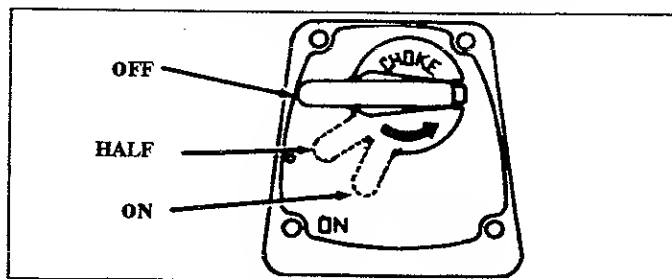

Figure 8
- a. Move Choke to "On" position. Figure 8.
- d. Move Choke to "half" position. Figure 8.
- f. Allow engine to run 5 seconds, then push Choke to "off" position. Figure 8. *Keep Trigger fully squeezed until engine runs smoothly.*
- a. Move Choke to "half" position. Figure 8.
- d. Move Choke to "off" position. Figure 8. *Keep Trigger fully squeezed until engine runs smoothly.*
NOTE: If engine does not run after 5 pulls, it is probably flooded. Wait a few minutes and repeat procedure with Choke at "off" position. Figure 8.
- b. Move Choke to "On" position. Figure 8.
- e. Move Choke to "off" position. Figure 8.
NOTE: If engine has not started, pull Starter Rope 5 more pulls. If engine still does not run, it is probably flooded. Wait a few minutes and repeat procedure with Choke at "off" position. Figure 8.